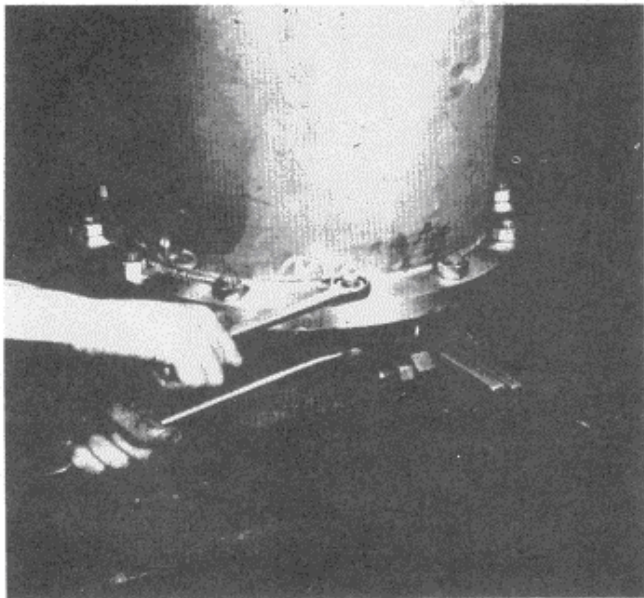

Fig. 5-5. Bolting the column to the bowl unit.
5. Wipe the bowl unit upper flange and the column lower flange with a clean rag. Place a gasket or O-ring (when furnished) on top of the bowl unit flange. Carefully lower the column to engage the two flanges, and install bolts in all the holes not obstructed by the box clamp. (See Fig. 5-5.) Tighten the bolts gradually in diametrically opposite pairs until all are uniformly snug. Raise the entire unit a few inches and remove the box clamp. Install the remaining bolts in the mated flanges, tightening radially and uniformly as before.